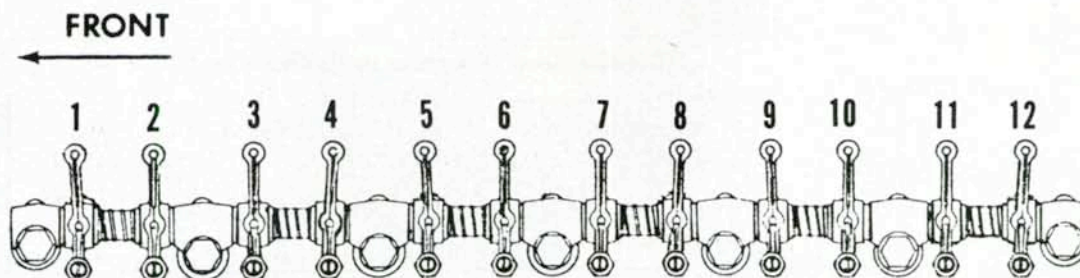

Fig. 89—Chart shows valve clearance adjusting sequence.
**51.** Valve clearance should be adjusted after every 600 hours of operation, and whenever rocker arms or cylinder head have been removed. Clearance should be 0.014-0.016 inch (0.36-0.40 mm) for intake valves and 0.017-0.019 inch (0.43-0.48 mm) for exhaust valves with engine cold. To adjust valve clearance, rotate crankshaft to position No. 1 piston at top dead center of compression stroke (rocker arms for No. 1 cylinder should be loose). Adjust the six valves indicated on chart shown in Fig. 89.
Turn crankshaft one complete revolution to position No. 6 piston at top dead center on compression stroke, then adjust remaining six valves indicated on chart (Fig. 89).